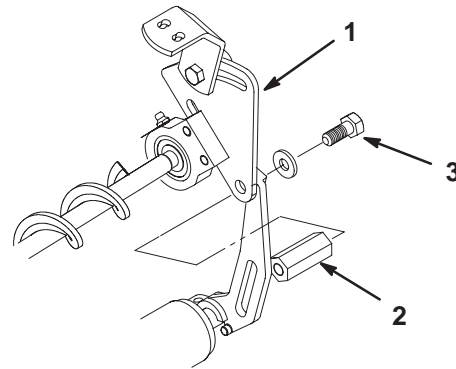

Figure 14
9. On the other end of the cutting unit, loosely secure the bearing adjustment plate to the hex extension with a hex head screw (M10) and flat washer (Fig. 14). Do not overtighten; the brush must pivot freely.